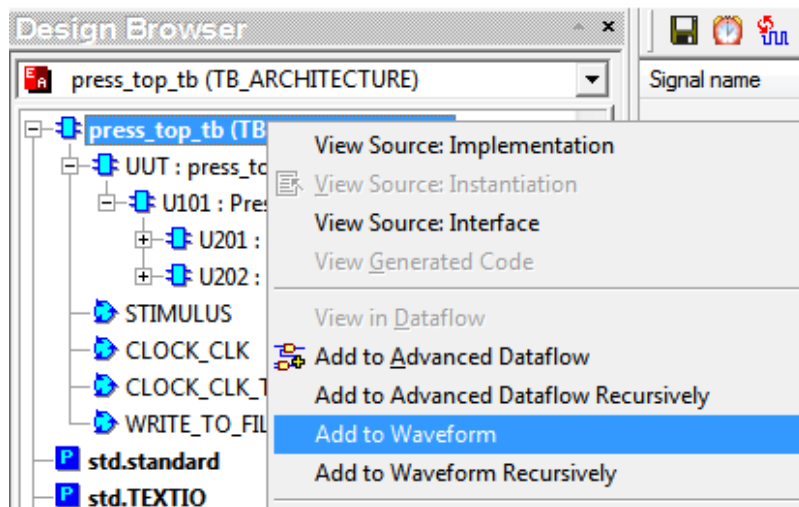

Figure 12 Adding Signals to Waveform Viewer
- Before you start any simulation you must select signals that represent the input and output ports of the tested model or internal signals. To add signals to the waveform file go to the **Design Browser** and on the **Structure** tab, click on the top level design file. Right clicking on the top level design select **Add to Waveform** option. This option adds one or more selected objects to the waveform window (in order they are displayed in the **Design Browser**, order of selection, or order resulting from both manual object multi-selection and then adding the selected signals). You can also add all signals from the selected hierarchy and its sub regions by using the **Add to Waveform Recursively** option available in the context menu of the **Structure** tab. You can also add the signals by dragging objects from the upper or lower pane of the **Structure** tab to the waveform window. (Refer to Figure 12)